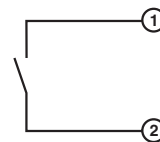
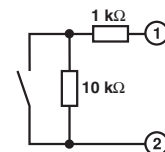

Figure 4 Switch contact with open circuit (not permitted for safety-related applications (SIL 2))
Figure 5 Switch contact with resistance circuit
**NOTE:** For **switch contacts with open circuit** (Figure 4) line fault detection (LF) must be disabled or the corresponding resistance circuit must be provided directly at the switch contact (Figure 5, e.g., UKK 5-2R/NAMUR (Order No. 2941662) with D-UKK 3/5 (Order No. 2770024)).
**WARNING:** Only switch contacts with resistance circuit are permitted at the input for safety-related applications (see Figure 5 on page 7).